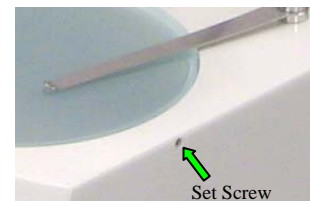

Fig.1
- 1) Loosen the set screw at the right side of stage plate (see Fig.1) using the Allen key provided.